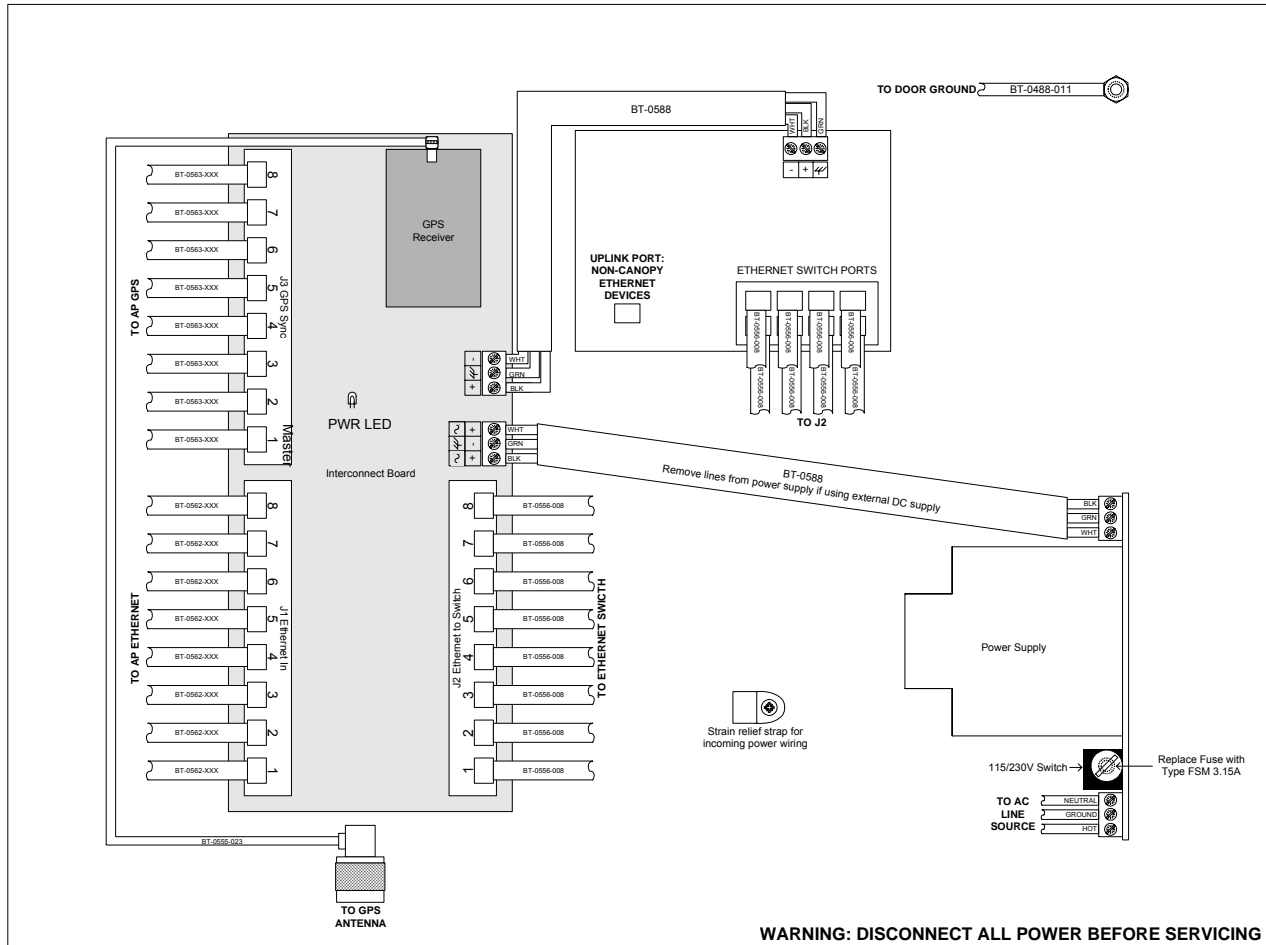

Figure 10: Layout of logical connections in CMM2
NOTE: The logical connections in the CMM2 are displayed in Figure 10.
14. Connect AC or DC power to the CMM2, consistent with Figure 10 on Page 24.